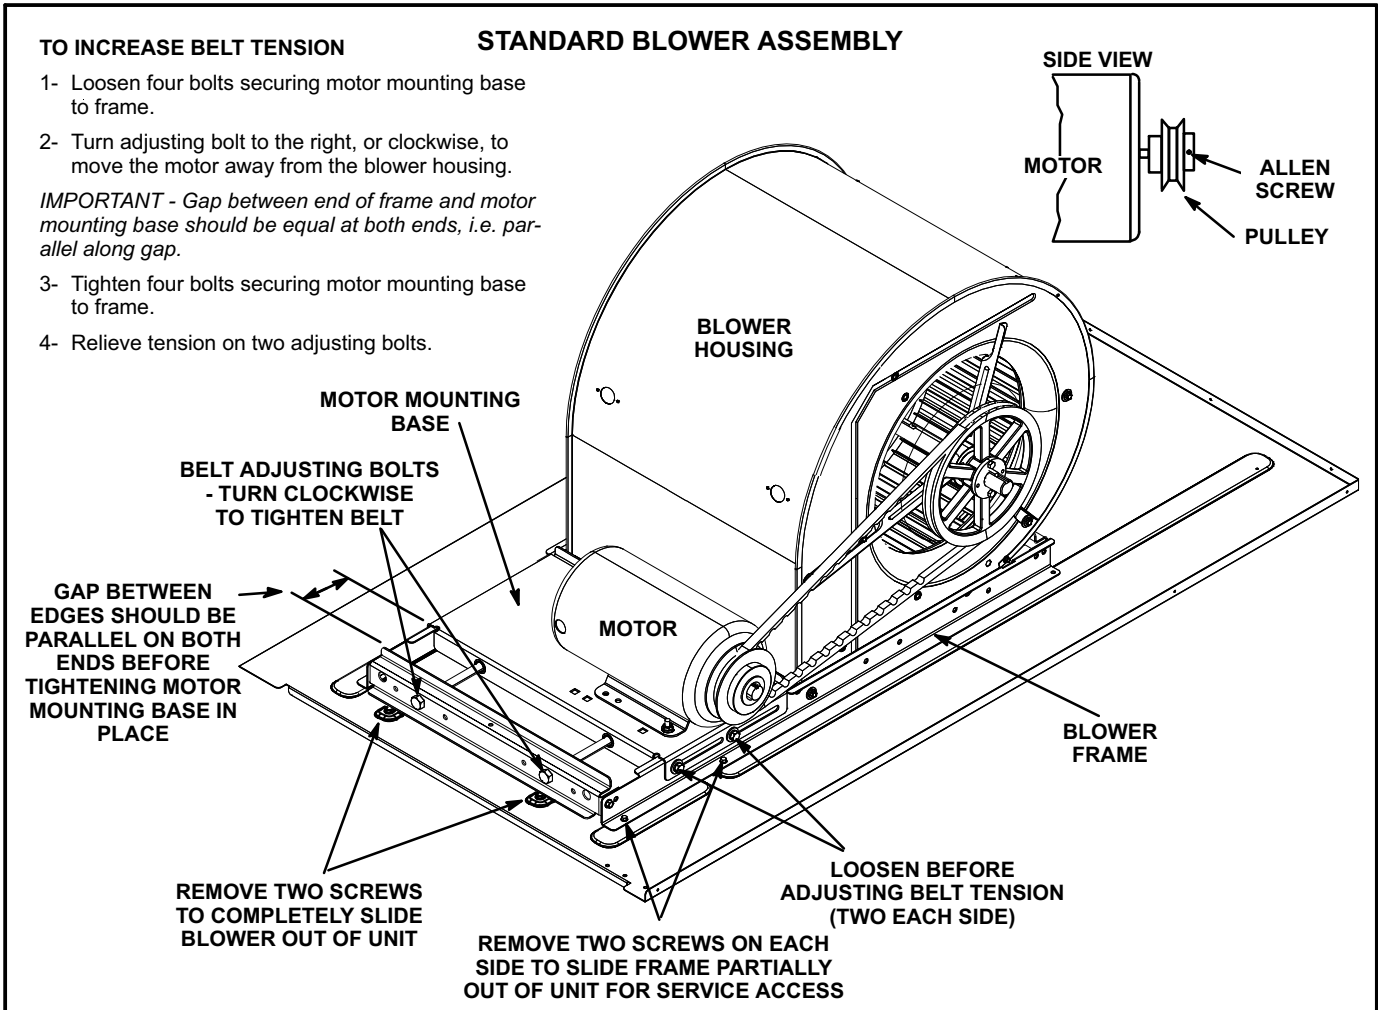

FIGURE 10
The blower assembly is secured to a sliding frame which allows the blower motor to be pulled out of the unit. See figure 10.
- 4- The blower RPM can be adjusted at the motor pulley. Loosen Allen screw and turn adjustable pulley clockwise to increase CFM. Turn counterclockwise to decrease CFM. See figure 10. Do not exceed minimum and maximum number of pulley turns as shown in table 2.
- 1- Loosen four bolts securing motor base to mounting frame. See figure 10.